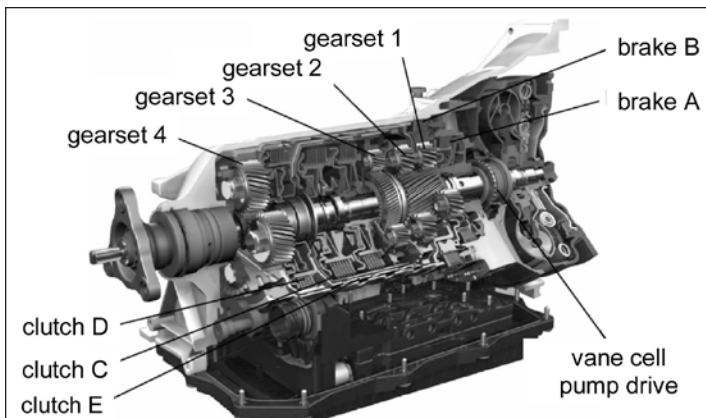

Figure 18 Transmission section 8HP70 (Ref. 5).
**Automatic transmissions.** In order to meet the continually rising requirements in fuel consumption economization and CO2 reduction, ZF decided to develop an 8-speed automatic transmission for standard drives (Ref. 5). Each new generation of transmissions has come with new goals that reap improved benefit for the customer, compared with the previous generation. The 8-speed transmission (Fig. 18) is based on a gear set system with 5 shifting elements and 4 planetary gear sets; the overall gear spread is 7.05. The harmonic transmission ratio series, the good gear set efficiency and the balanced rotational speed and torque splitting within the transmission provide conditions for compact construction and good internal efficiency.